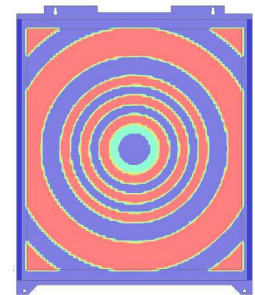

Figure 2 - The "pattern grouping" option of OptiStruct generated a circular bead structure as initial design proposal.
- *Topography optimization* was used to generate the initial bead layout. The desired bead parameters (like bead width and height) had to be defined within the design space. OptiStruct generated a design proposal for the optimum pattern with respect to given design targets (Figure 2). The goal in the current project was to maximize the stiffness of the cover under specified load conditions. OptiStruct allows for the definition of desired bead pattern symmetries in order to generate designs which are easier to manufacture. Circular pattern grouping, one of the bead patterns offered by OptiStruct, generates patterns which consist of a number of circular beads; this option turned out to generate the best pattern for the given boiler cover design challenge.